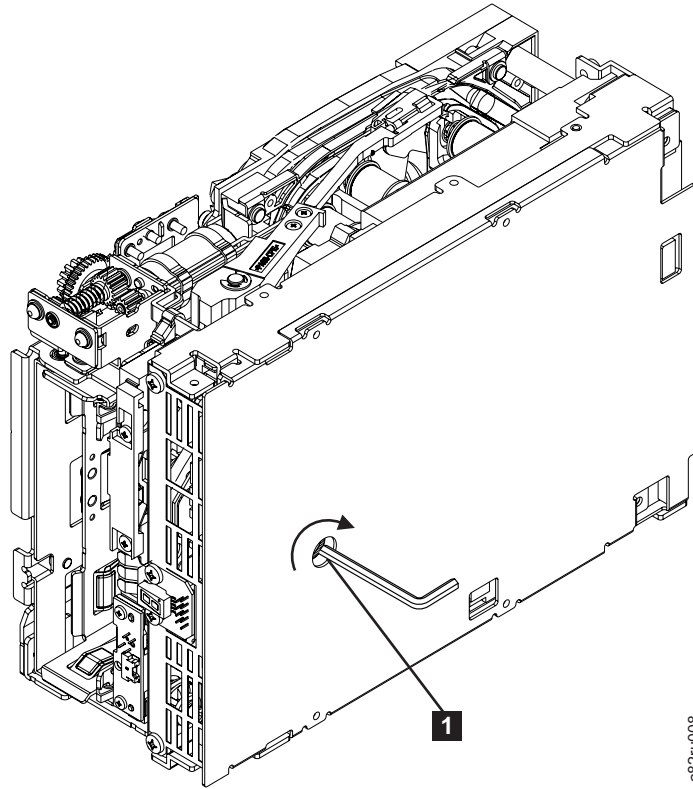

Figure 8-77. Using hex wrench to rewind tape into cartridge
6. From the bottom of the drive, locate the access hole (1 in Figure 8-77 on page 8-81) in the bottom cover. Insert a 2.5 mm offset hex wrench through the bottom cover access hole and into the reel motor axle. begin spooling tape back into the cartridge by turning the hex wrench clockwise.